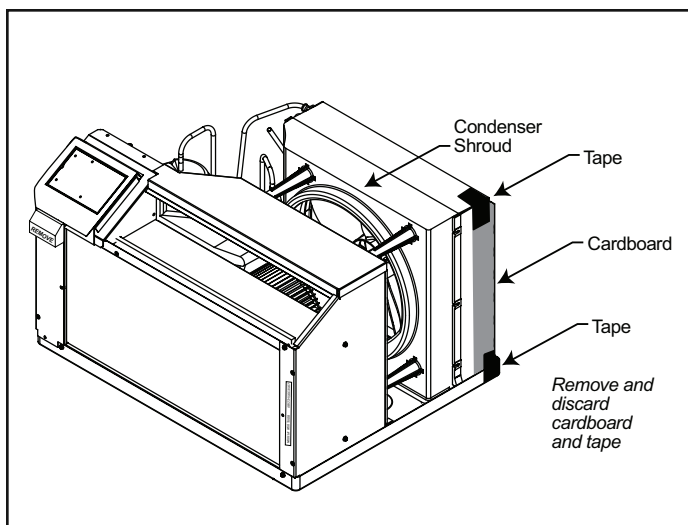
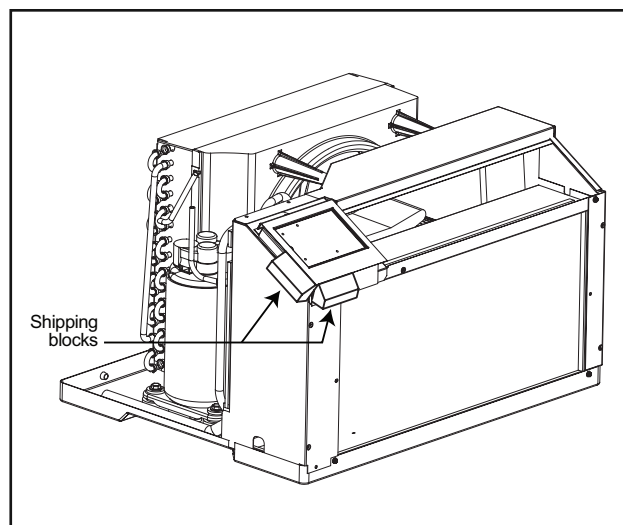

Figure 10
Figure 11
- A. Check the anchor screws. There should be five (5) in the "WSC" SLEEVE (two in each side and one in the top center).
STEP 4. With the help of an assistant, remove the chassis from the shipping carton. Remove the cardboard which is placed against the hairpins and is taped to the condenser shroud (see Figure 10). Be careful not to allow anything to impact against the hairpins as this may result in damage to them. **IMPORTANT:** Before installing the unit in the wall sleeve, remove the two yellow shipping blocks. One shipping block is fixed directly below the control panel on the front, left side of the unit. A second shipping block is located directly below the left side of the control panel. (see Figure 11). With the help of an assistant, lift the chassis by the basepan and slide it into the sleeve until it contacts the rear grille. With the chassis in proper position, the front edge of the basepan must extend out 4-3/4 inches from the front (side) edge of sleeve.